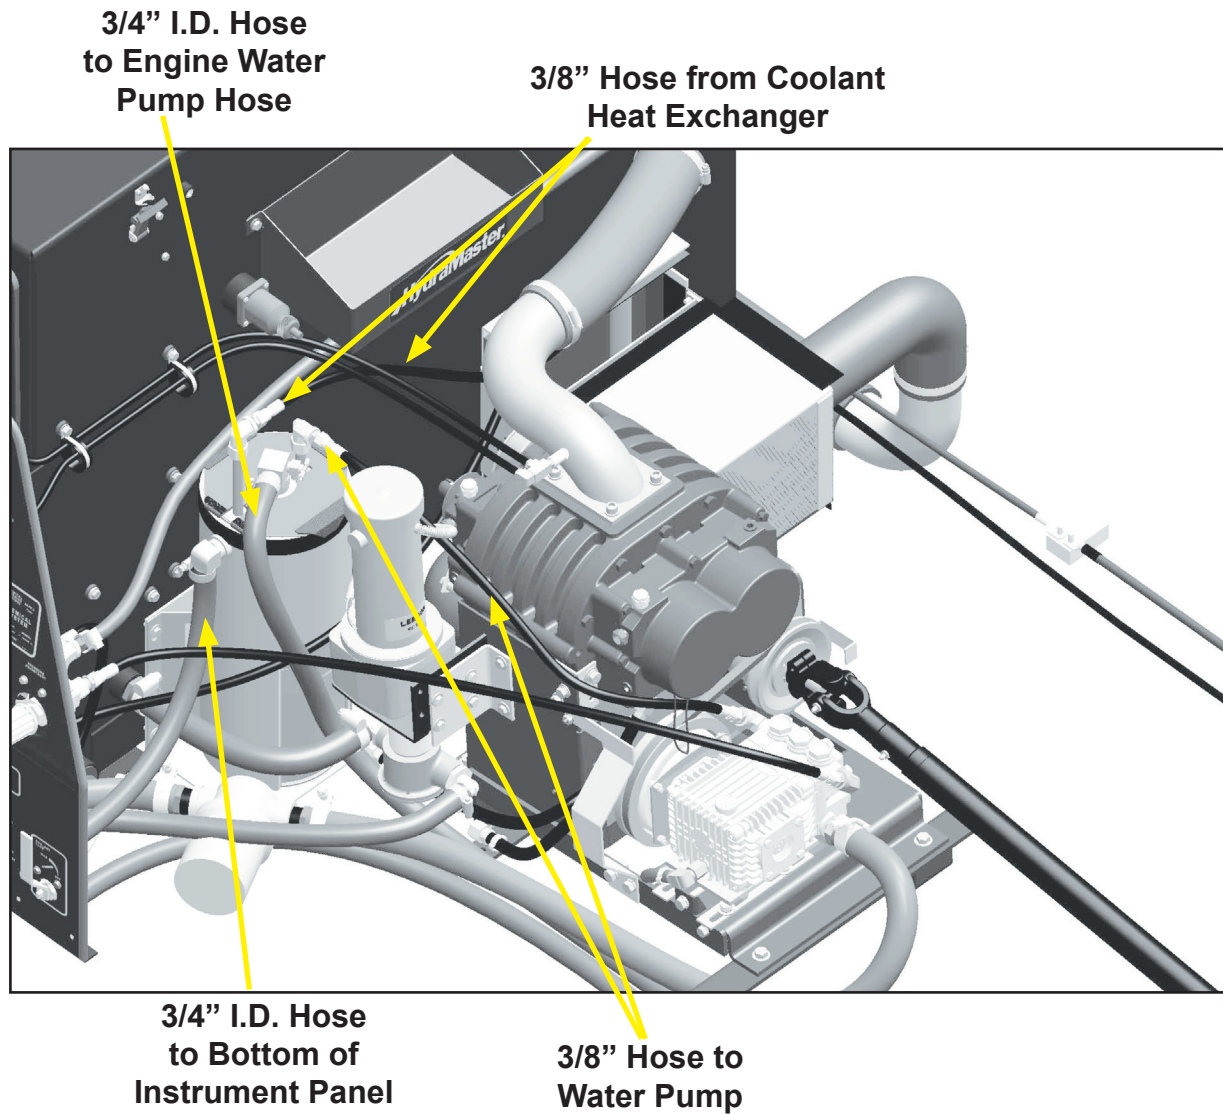

Figure 40. Connect Hoses from/to Coolant Heat Exchanger
5. Connect hoses from/to the Coolant Heat Exchanger (see Figure 40).